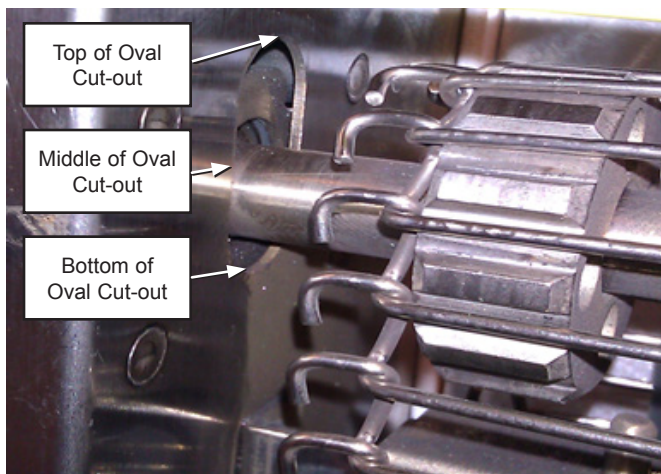

Figure 11. Measuring Conveyor Belt Chain
3. See Figure 11. With the belt wraps removed, locate the top Idler Shafts for the front and rear conveyors. There is an oval cut-out on the chassis of the unit. The top Idler Shafts should be in the middle of the oval cut out or lower. If the shaft is higher, remove a link from the conveyor chain. In the example shown, a link does NOT need to be removed.